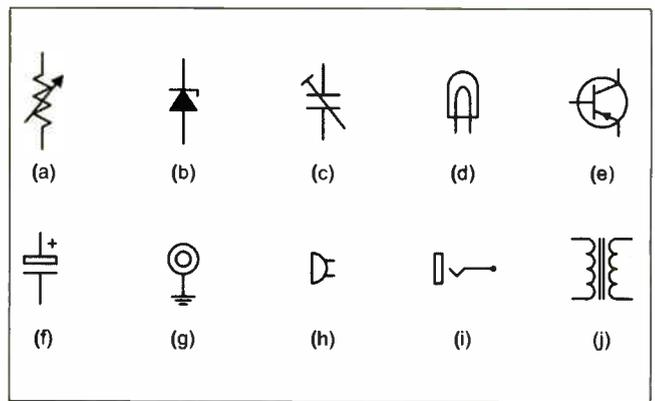

Fig.2.3. See question Q2.7
- Q2.7. Fig.2.3 shows a few more circuit symbols for you to identify